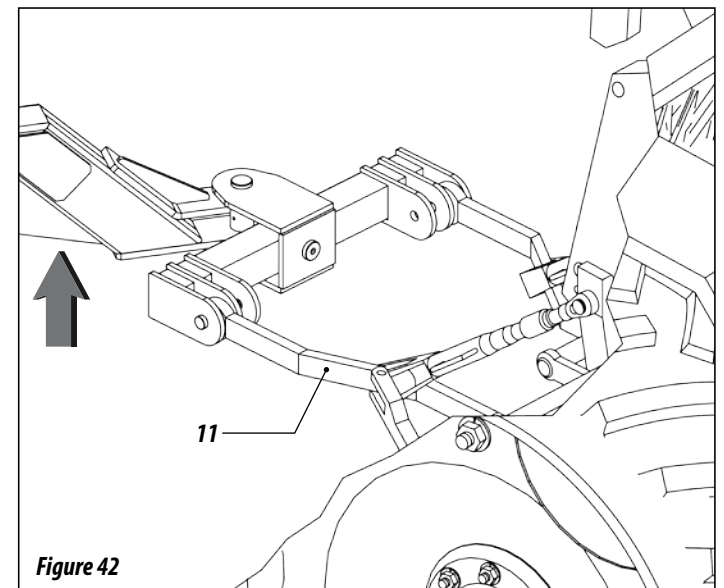

Figure 42
07 - Raise the hydraulic arms of the tractor (11), figure 42.